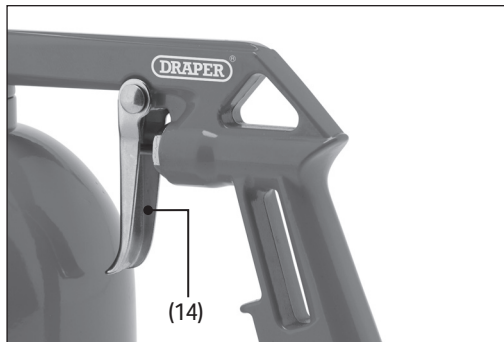

Fig. 12
Fluid is released from the cleaning gun by squeezing the cleaning gun trigger (14). The further the trigger is depressed, the greater the force with which the fluid is expelled. Release the trigger to stop the release of fluid (Fig. 12).